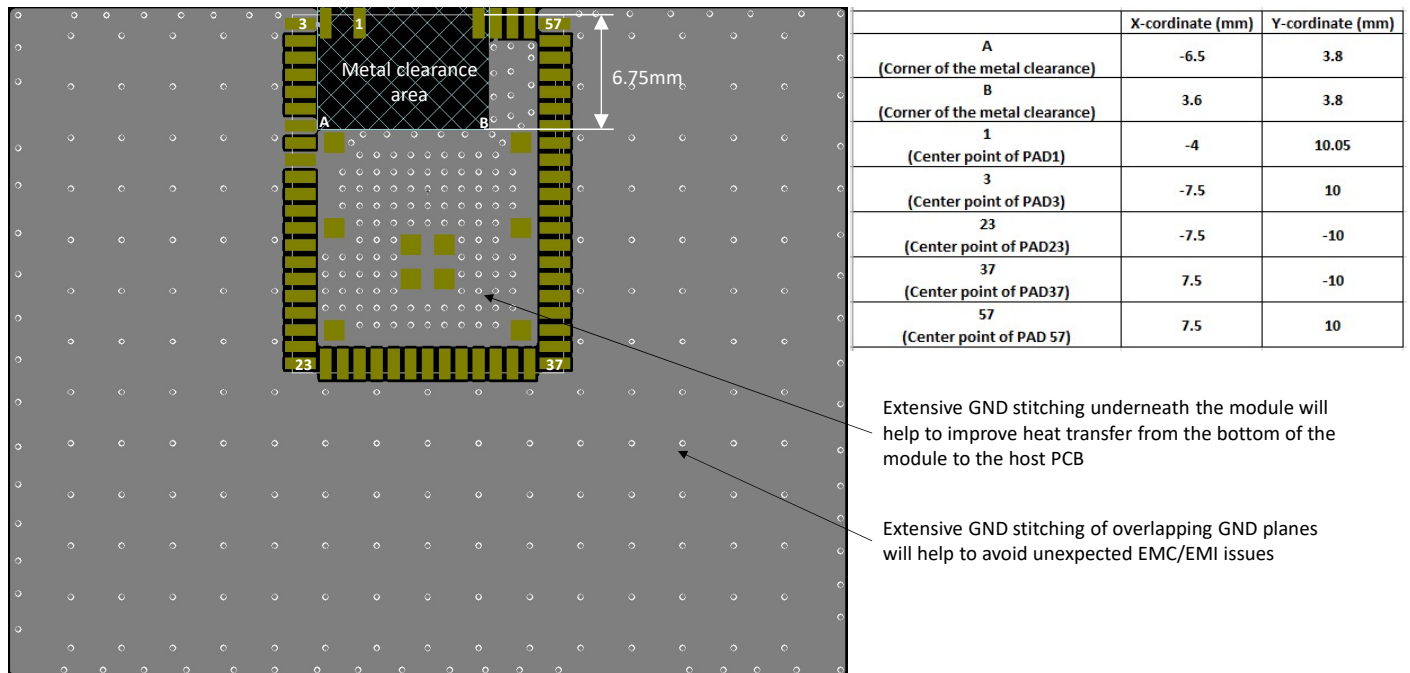

Figure 8.34. Application Layout of SiW917Y1GA
- Place the module aligned to the edge of the application PCB, as illustrated in Figure 8.34 on page 158.